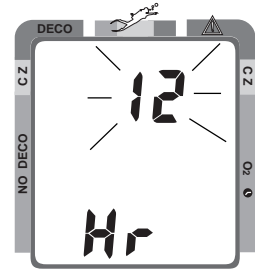

Fig. 23 - Set Hour Format
- the **Hour Format** appears flashing (Fig. 23)